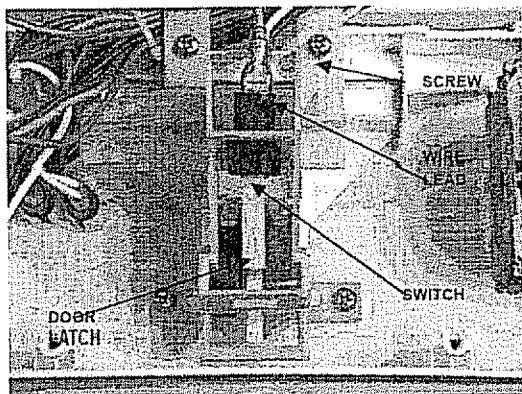

Figure 5
3. Remove wire leads from door latch and remove screws securing door latch assembly to inner door (See Figure 5)